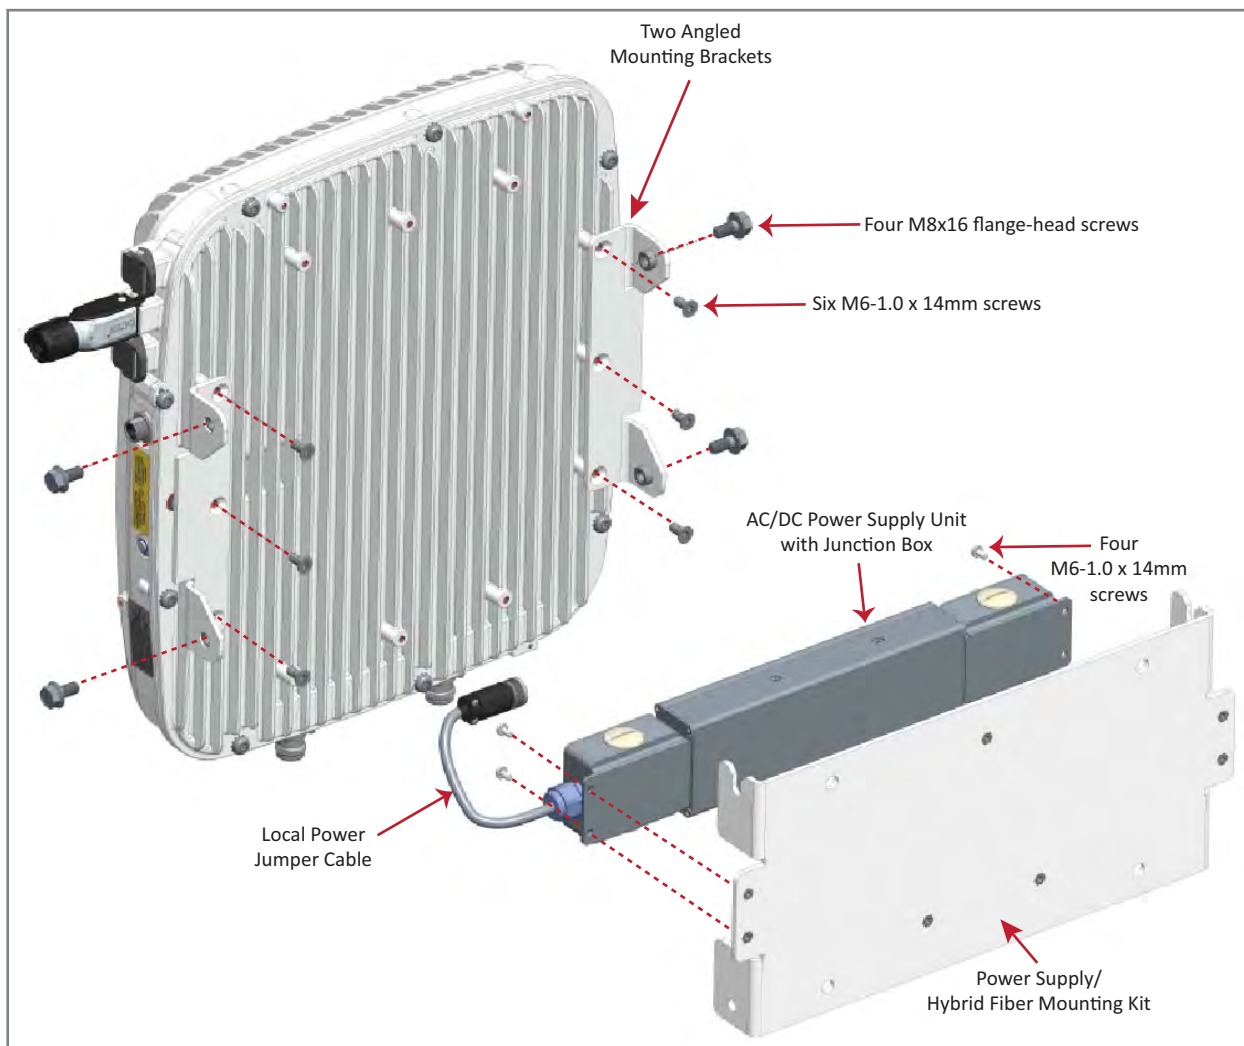

Figure 17. CAP L (No Fan Kit) with AC/DC Power Supply Kit (PN 7775087-xx) and Power Supply/Hybrid Fiber Mounting Kit (7774354-xx)
- 7 Assemble and mount the AC/DC Power Supply Kit and the CAP L, as described below and as shown in Figure 17 on page 41 (CAP L without Fan Kit) and Figure 18 on page 42 (CAP L with Fan Kit). The Local Power Jumper Cable Assembly will be connected to the AC/DC Power Supply Junction Box at the factory.